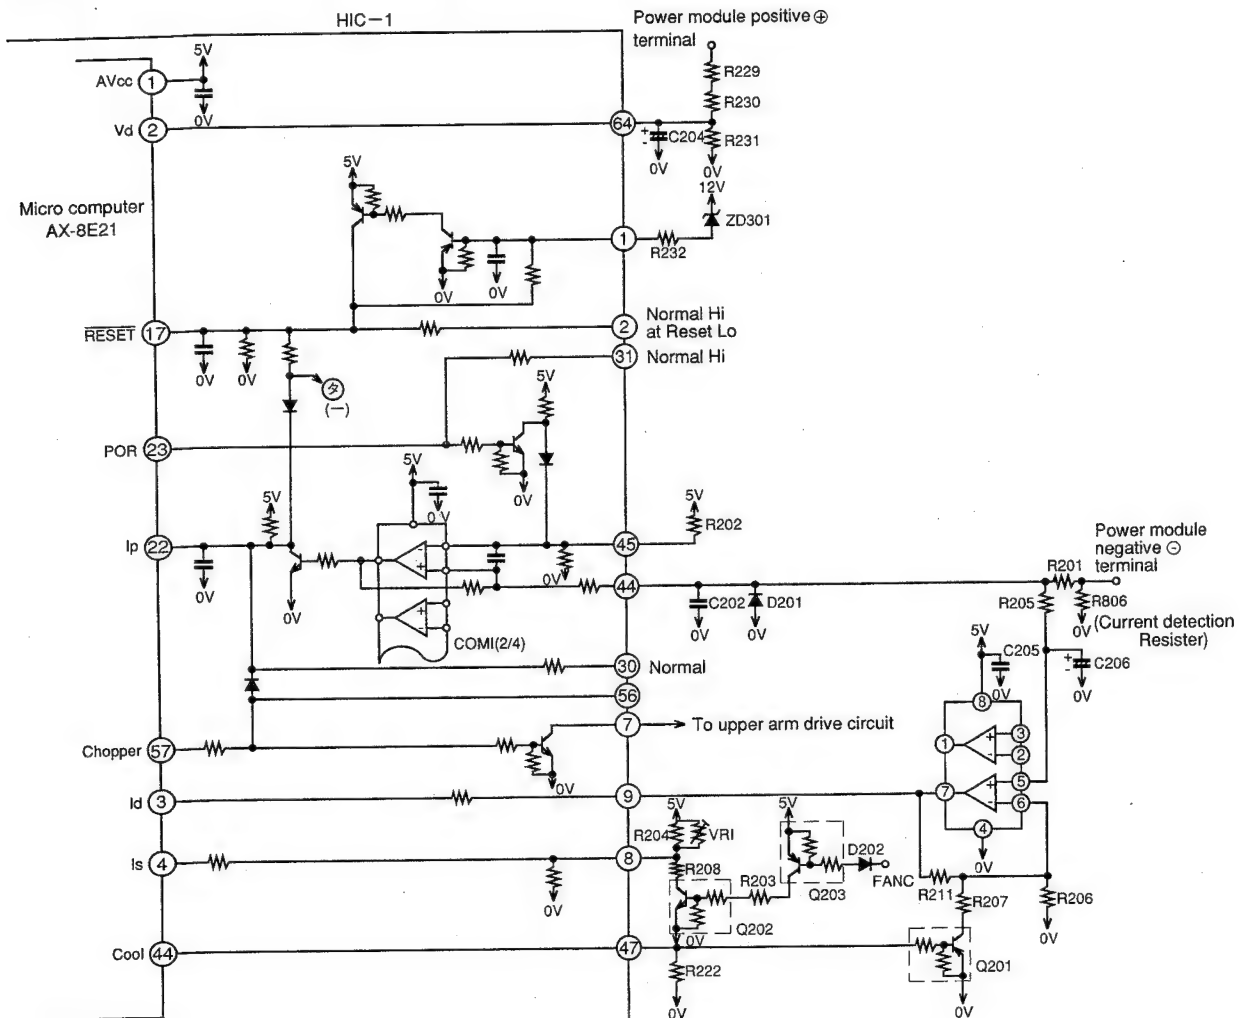

Fig. 8-1 Micro computer(AX-8E21) and peripheral circuits
- Fig. 8-1 shows the micro computer and its peripheral circuits, Table 8-1, the basic operations of each circuit block, and Fig. 8-2, the system configuration.